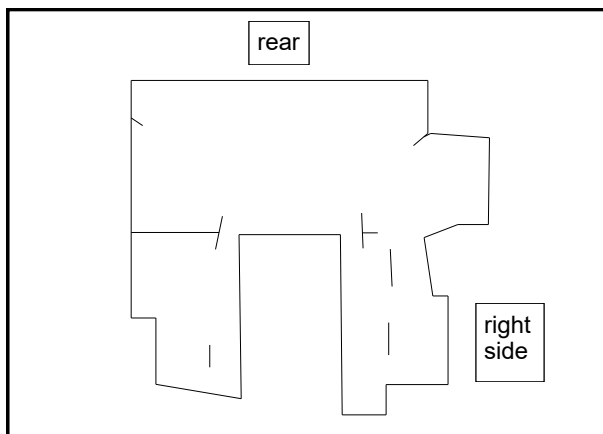

Fig. 19.2 (Underseat Filler)
**19.2** Move and tip the seat forward. Figures 19.2 thru 19.2c show the underseat filler. Begin by doing a dry fit to get a feel for where all areas fit best. (Underseat Filler highlighted in white for clarity). Start by lining up straight edge "A" with the lower rear panel. Apply the corresponding velcro where deemed necessary and to match the velcro on the vinyl filler. Do not cover up any factory decals.